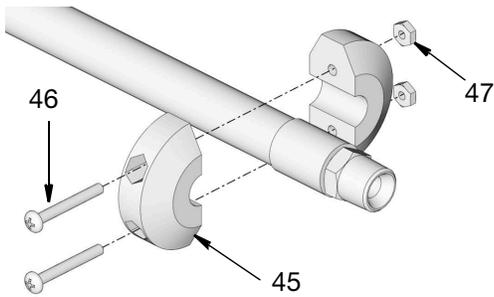

**FIG. 13**
3. Attach a c-clamp (A) to the reel spool, as shown in FIG. 13, to help prevent the reel from unintentionally becoming unlatched and spinning freely.
- Securely attach a c-clamp (A) to the reel spool as shown in FIG. 13 to help prevent the reel from unintentionally becoming unlatched and spinning freely.